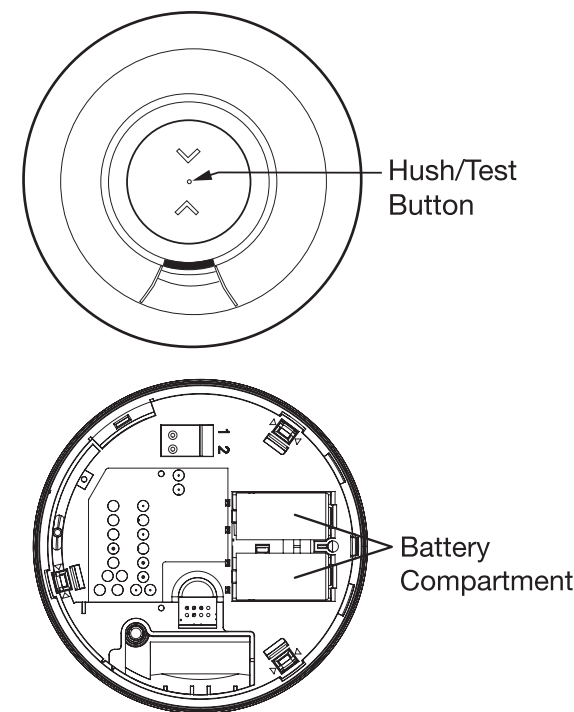

Fig 1. Wireless Smoke Heat Detector
- Push and hold the test button until the Detector sounds and the red LED flashes (see **Figure 1**). The Detector will stop sounding shortly after the button is released. The alarm panel will trigger and into alarm. The sounder begins the temporal 3 pattern and the red LED blinks. The alarm panel's console should display the Detector's name in alarm.